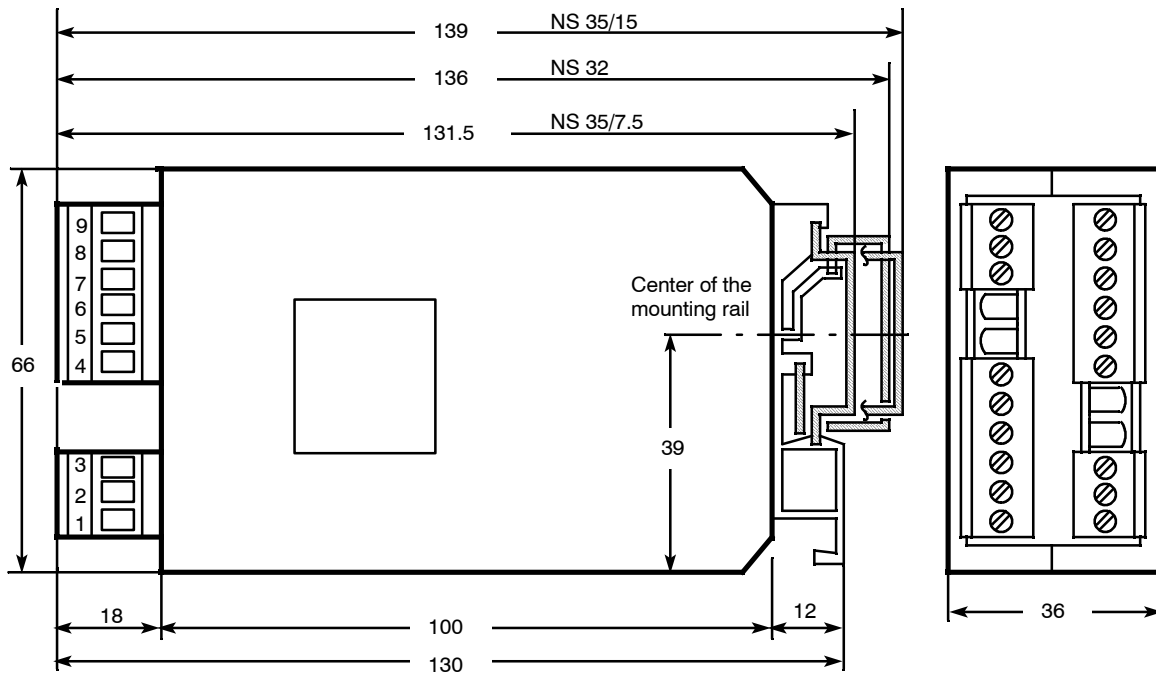

Figure 2-7 Dimensioned drawing coupling relay, dimensions in mm
- **Dimensioned drawing** see fig. 2-7